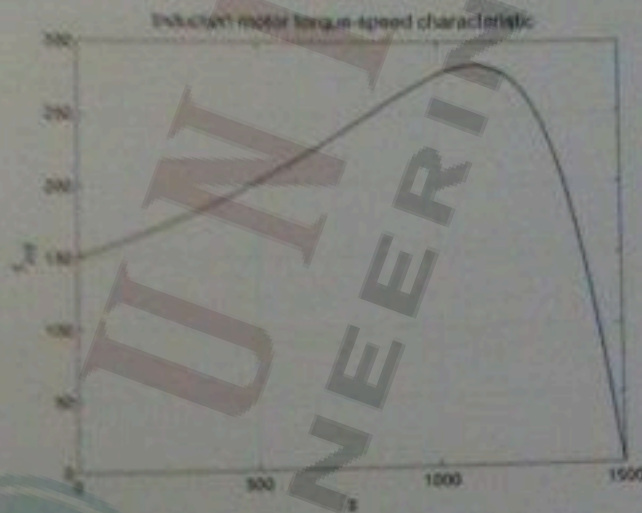

Figure 3
**Problem 2** A 400-V 55-hp four-pole  $\Delta$ -connected 50-Hz three-phase induction motor has a full-load slip of 6 percent, an efficiency of 90 percent, and a power factor of 0.85 lagging. This motor is to be started with an autotransformer to reduced voltage starter as shown in Fig. 3. The rotor losses is 2270 W. Find: